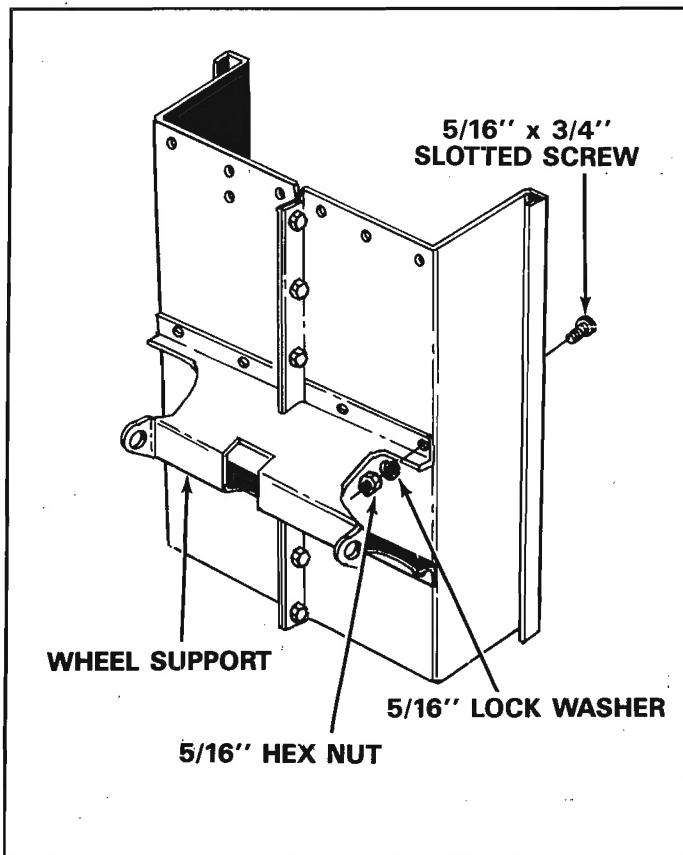

FIGURE 3
4. Position the wheel support in place on the bottom of cart. See figure 3.
5. Assemble wheel support to cart with eight 5/16" x 3/4" slotted head screws, 5/16" lock washers and 5/16" hex nuts. See figure 3. Heads of screws go to the inside of cart and should be tightened at this time.